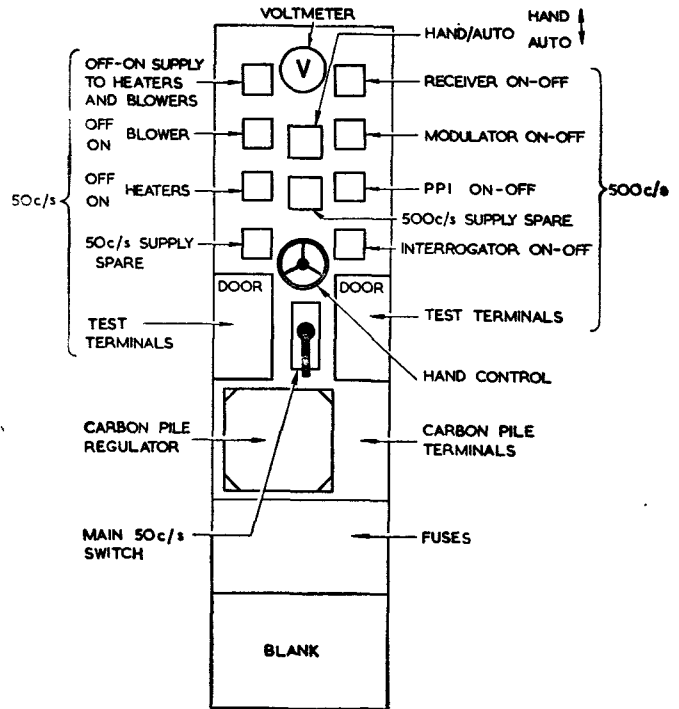
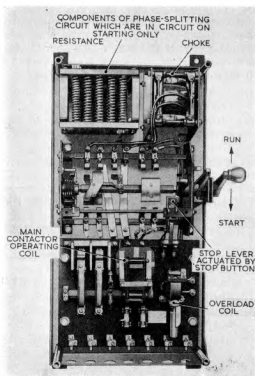

Fig. 4. Switchboard
Fig. 5. Starter panel
##### Switchboard and starter panel (fig. 4 and 5)
- (3) Hold down the handle at the right-hand side of the starter panel (fig. 5). If it will not go down, press the red button to release the handle. When the motor reaches full speed (after 30 sec. to one minute) push the handle smartly upward into the RUN position. The voltmeter (fig. 4) should now read 180V; if it is high or low, adjust the voltage regulator by means of the control on its front panel. Automatic regulation should normally be employed, but in the event of failure, use hand regulation as follows:—
- (4) Switch on the following:—